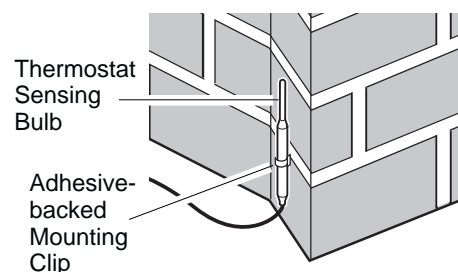
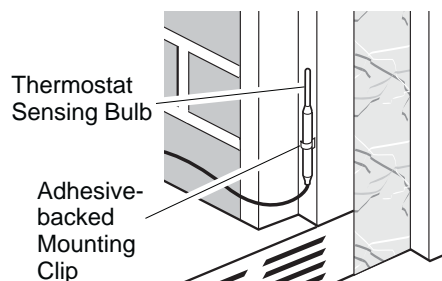
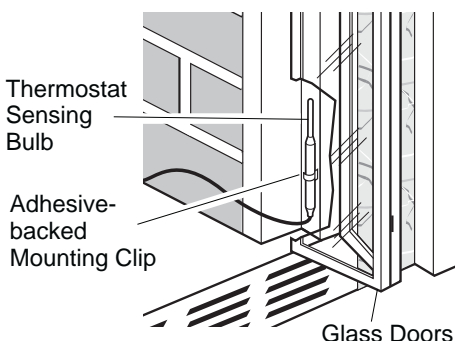

Figure 30 - Locating Thermostat Sensing Bulb on Masonry Fireplace
Figure 31 - Locating Thermostat Sensing Bulb on Factory-built Metal Fireplace
Figure 32 - Installing Thermostat Sensing Bulb behind Glass Doors
3. The thermostat sensing bulb may be located to the lower right front side of fireplace. Determine location of sensing bulb, but do not mount sensing bulb until step 5. If you have a masonry fireplace, see Figure 30 for location. If you have a factory-built metal fireplace, see Figure 31 for location. If your fireplace has glass doors, position sensing bulb directly behind door gap on right bottom side (see Figure 32).